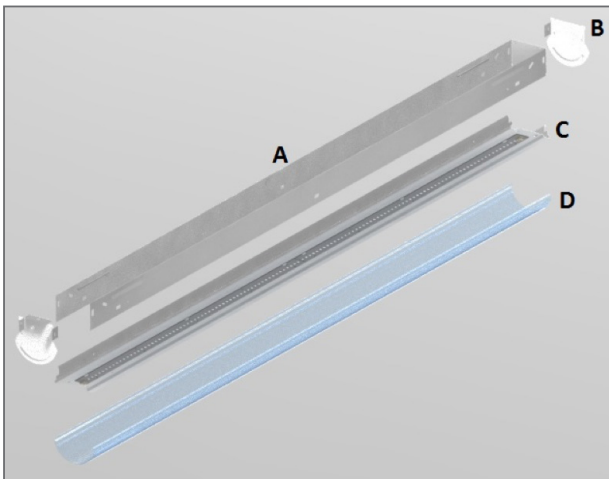
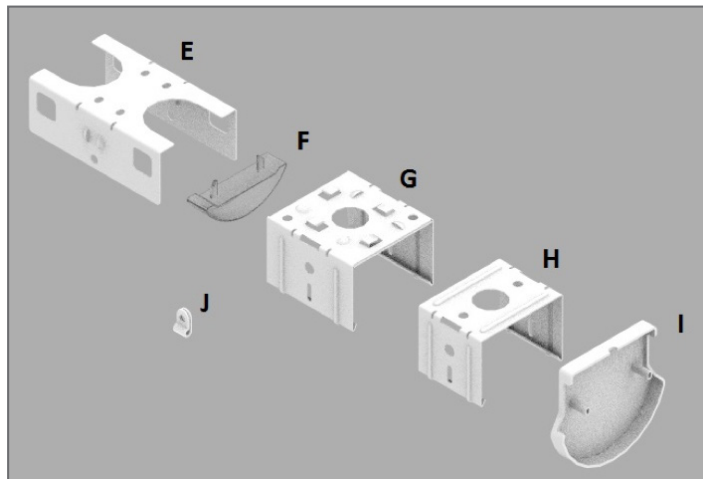
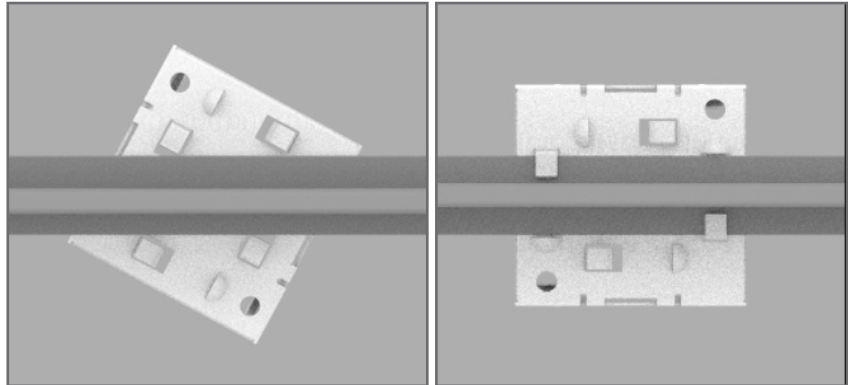

FIGURE 1
FIGURE 2
FIGURE 12
Refer to Figure 1 and Figure 2 for identification of the parts referenced in this guide.
3. Install the T-bar hanger brackets ("G" in Figure 2) 40" apart onto the T-bar ceiling by twisting the brackets into place as shown in Figure 12 (viewed from above the ceiling grid). It is critical to ensure that the bracket is fully engaged with the T-bar. For one fixture, two brackets are required. For row mounted fixtures, one bracket at each end and a minimum of one per fixture in between is required.
3. Position the tong hanger brackets ("H" in Figure 2) to the desired mounting location, spaced 40" apart. At the designated mounting points, use appropriate fasteners (by others) to secure the brackets to the ceiling. For row mounted fixtures, one bracket at each end and a minimum of one per fixture in between is required.
3. Snap the row mounting bracket ("E" in Figure 2) into the first housing in place of the metal end cap and repeat for the remaining housings, shown in Figure 20.